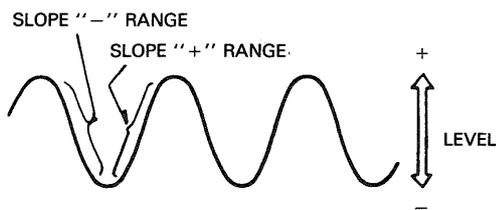

Fig. 9
Trigger point on waveform is adjusted by the LEVEL/PULL SLOPE ⑳ control. Fig. 9 shows the relationship between the SLOPE and LEVEL of the trigger point. Triggering level can be adjusted as necessary.